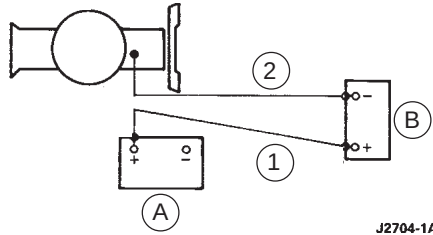

Fig. 16 — Correct Connections of Vehicle Booster Battery
1. Position both vehicles close to but not touching one another so that the batteries are near each other (Fig. 16).
3. With both vehicle engines switched off, connect the positive (+) terminal of the booster battery to the positive (+) terminal of the flat battery with the red jumper lead (1) in Fig. 16.
4. Connect one end of the jumper lead #2 (black lead) to the negative (-) terminal of the booster battery. Connect the second end of the #2 jumper lead (black lead) to a clean, bare metal part of the engine to be started with the black jumper lead (2) in Fig. 16.